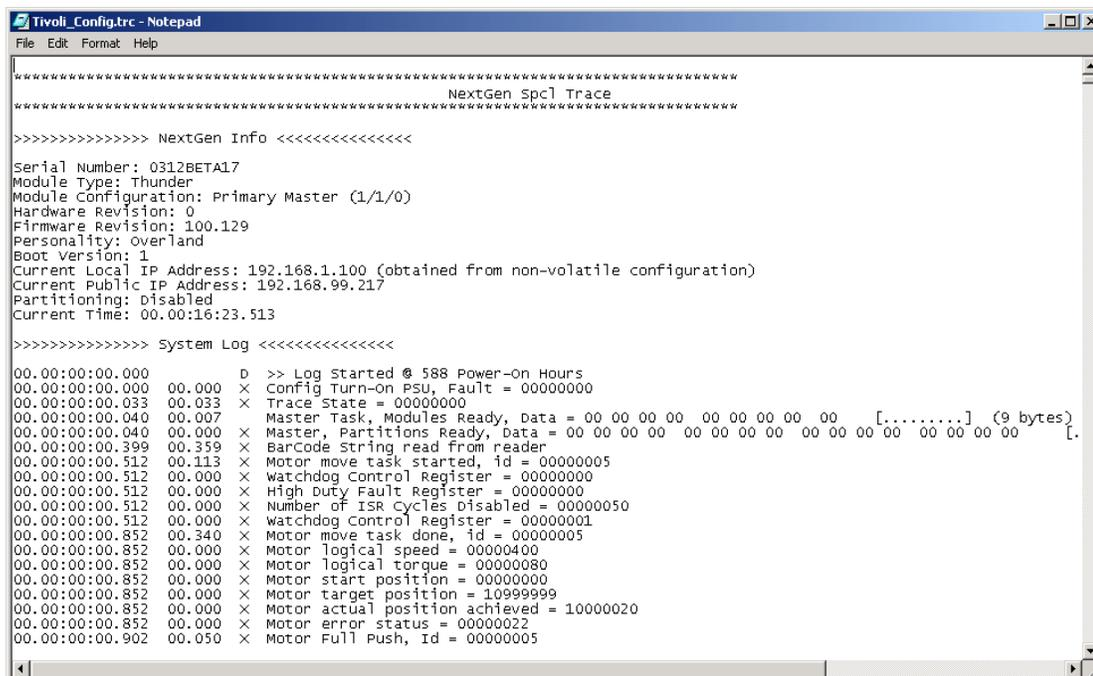

Figure 7-21: Post-Process Trace Screen
6. Choose **Post-Process > Process and Display** from the Neo8000Center menu. Notepad opens and the trace log is shown (Figure 7-21).